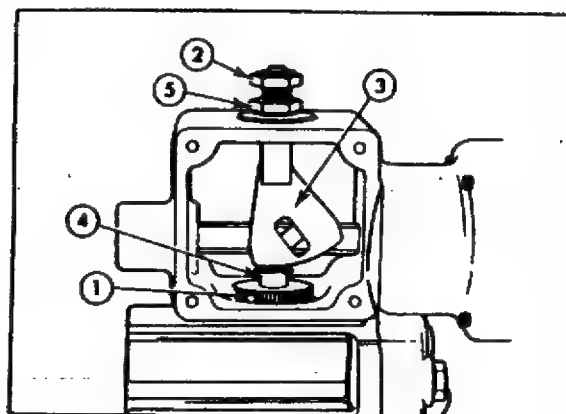

Fig. 63 Fitting Boost Control Unit
1. Fit a new gasket, coated both sides with 'Hylomar L33' sealing compound, between the boost control unit and the governor case Fig. 63. Coat the fixing sleeve with 'Loquic T' primer and 'A V Loctite', alternatively use 'Loctite 241' or an approved equivalent.